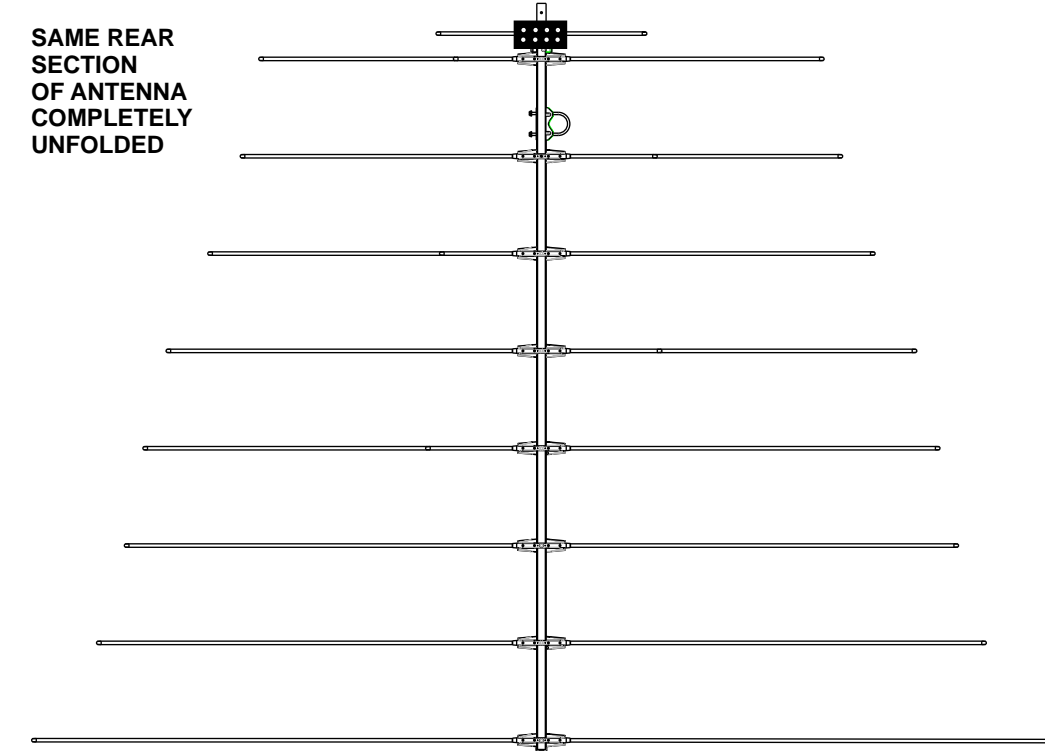

Fig. 2
- Slide the front boom into the rear boom; as this is done, feed the phasing lines into the middle holes of cartridge housing and then into the slotted pegs inside the housing (see **Figure 2 & 2A**). Reinstall director element, bolt & nut.